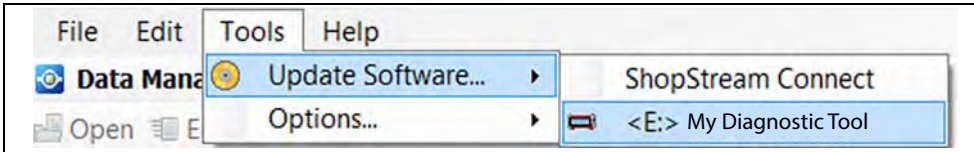

Figure 15-12
1. Select **Tools > Update Software >** (diagnostic tool type - e.g. TritonD8, etc.) from the Menu bar (*Figure 15-12*).